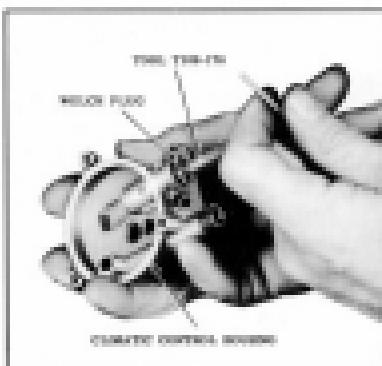

Fig. 119. Removing Welch Plug.
1. The Welch plug in the bottom of the diaphragm control housing may be removed by drilling small hole in center of plug and using needle puller T109-128. (See Fig. 119)
trol piston housing for dirt and carbon accumulation. If excessive dirt and carbon are found, remove Welch plug from base of vacuum cylinder as illustrated in Figure 119, in order to facilitate removal of carbon from slots in cylinder.